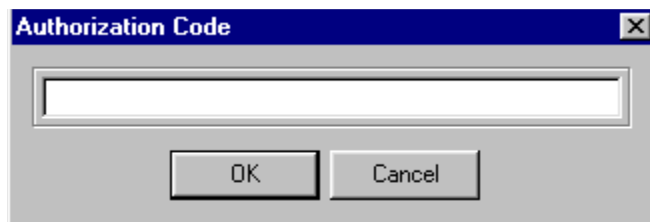

Figure 15: Authorization Code Dialog
6. When the Authorization Code dialog opens, see *Figure 15*, enter the auth code and select OK